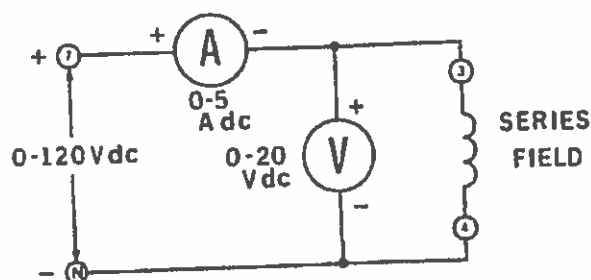

Figure 11-2.
- ☒ 8. Connect the circuit shown in Figure 11-2.
- This is the same circuit shown in Figure 11-2 except that the armature winding (plus the brushes) has replaced the series field winding.